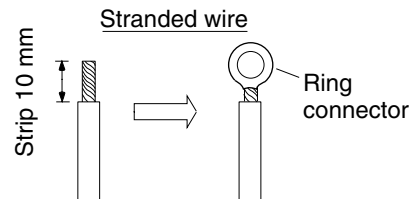

Fig. 3-37
(Figs. 3-37 and 3-38)
- (2) Using a screwdriver, remove the terminal screw(s) on the terminal plate.
- (3) Using a ring connector fastener or pliers, securely clamp each stripped wire end with a ring connector. (Fig. 3-37)